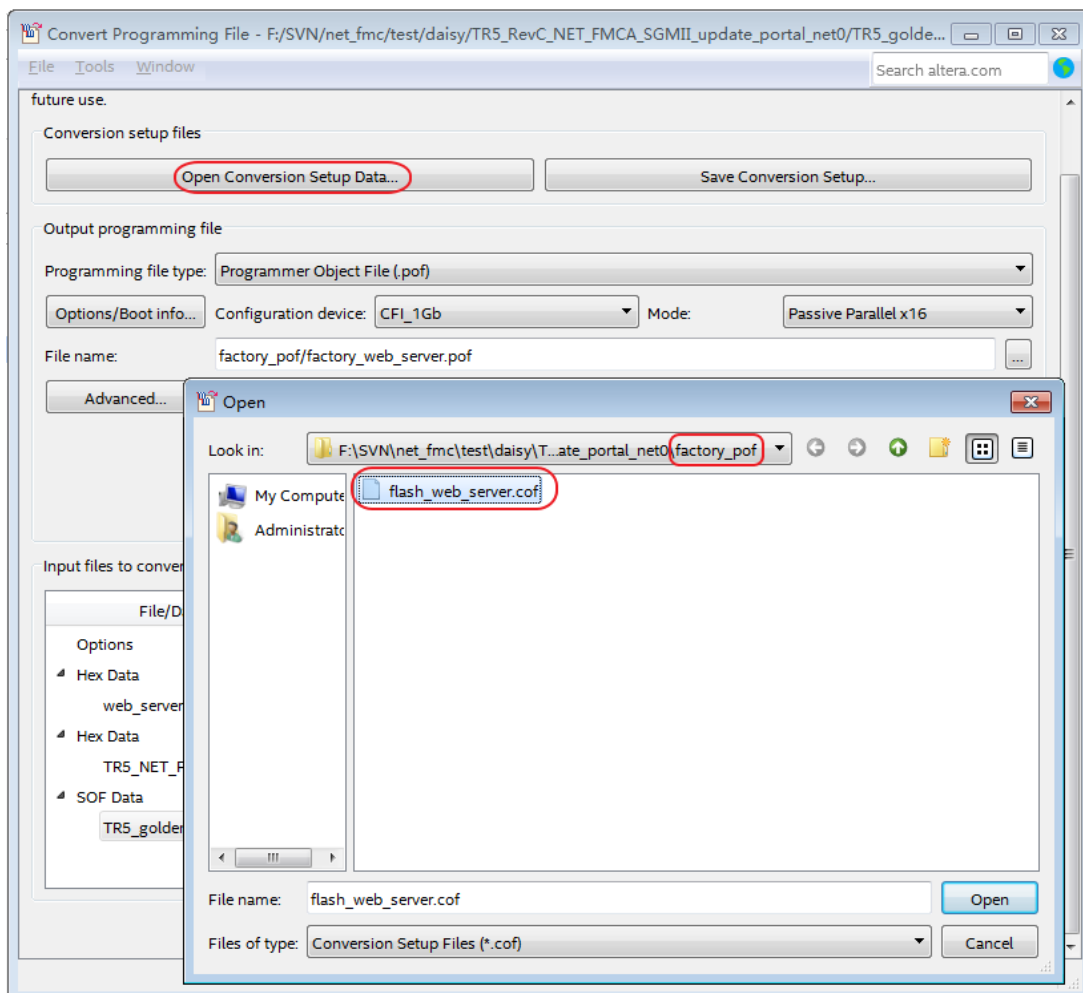

Figure 4-3 Selecting Conversion Setup Data
- Click the Open Conversion Setup Data button and choose the flash_web_server.cof file in factory_pof directory as shown in **Figure 4-3**.